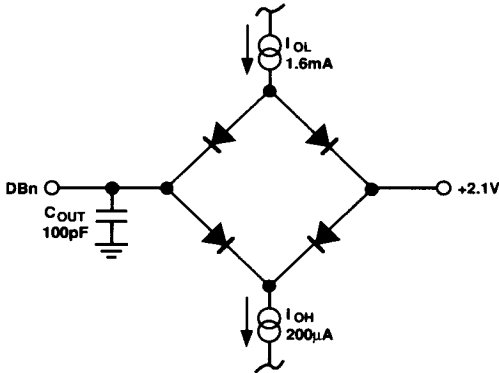
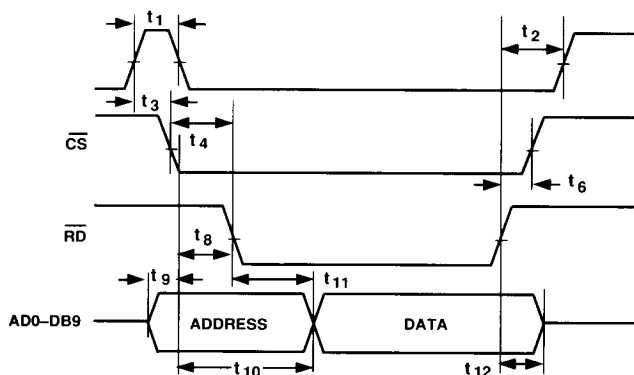

Figure 3. Load Circuit for Bus Timing Characteristics
Figure 4. Read Cycle Timing for AD7775
- ³ t_6 is measured with the load circuit of Figure 3 and defined as the time required for an output to cross 0.8 V or 2.4 V.
- ⁴ t_7 is derived from the measured time taken by the data outputs to change 0.5 V when loaded with the circuit of Figure 3. The measured time is then extrapolated back to remove the effects of charging or discharging the 100 pF capacitor. This means that the time t_7 quoted above is the true bus relinquish time of the device and, as such, is independent of the external bus loading capacitance.
NOTES¹See Figures 4 and 5.²Timing specifications in **bold print** are 100% production tested. All other times are sample tested at +25°C to ensure compliance. All input signals are specified with $t_r = t_f = 5\text{ ns}$ (10% to 90% of 5 V) and timed from a voltage level of 1.6 V.³Data access time depends directly on t_4 , the $\overline{CS}$ to $\overline{RD}$ setup time, e.g., $t_{11} = 135 - t_4$. Time t_{11} is measured with the load circuit of Figure 3 and is defined as the time required for an output to cross 0.8 V or 2.4 V.⁴ t_{12} is derived from the measured time taken by the data outputs to change 0.5 V when loaded with the circuit of Figure 3. The measured number is then extrapolated back to remove the effects of charging or discharging the 100 pF capacitor. This means that the time t_{12} quoted above is the true bus relinquish time of the device and, as such, is independent of external bus loading capacitance.